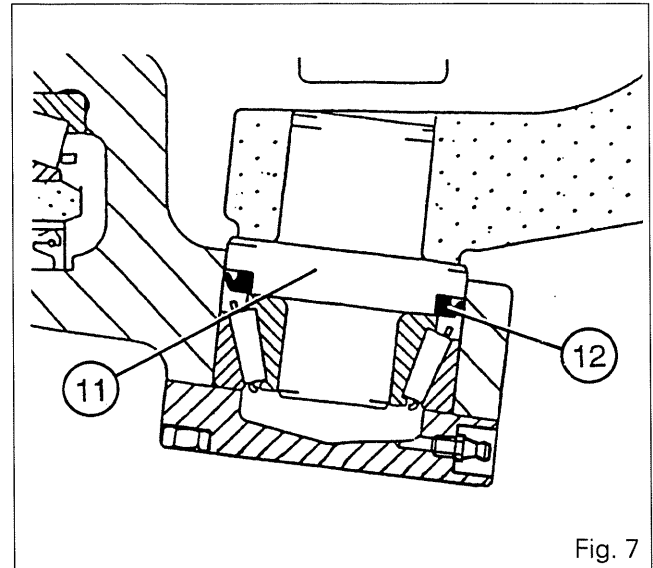

Fig. 7
61. If removed, fit the bush (9) and the new oil seal (8) against the shoulder of the axle housing (52), oil the seal (8). Refit the universal drive shaft. Introduce a guide through the filling hole to align the left drive shaft with the differential.
62. If removed, fit the bush (17) and the new oil seal (16) against the shoulder of the axle housing (47).
63. Replace the O-ring (12). Orient its lip as shown on Fig. 7. Drive the bearing cone (13) against the shoulder of swivel pin (11).